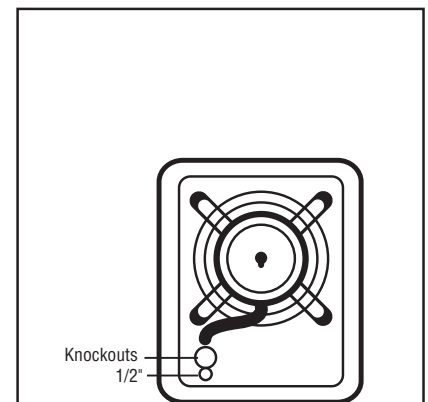

Figure 6
3. Two knockouts are provided on the back of the heater for wire entry. See Figure 6 for location of knockouts.